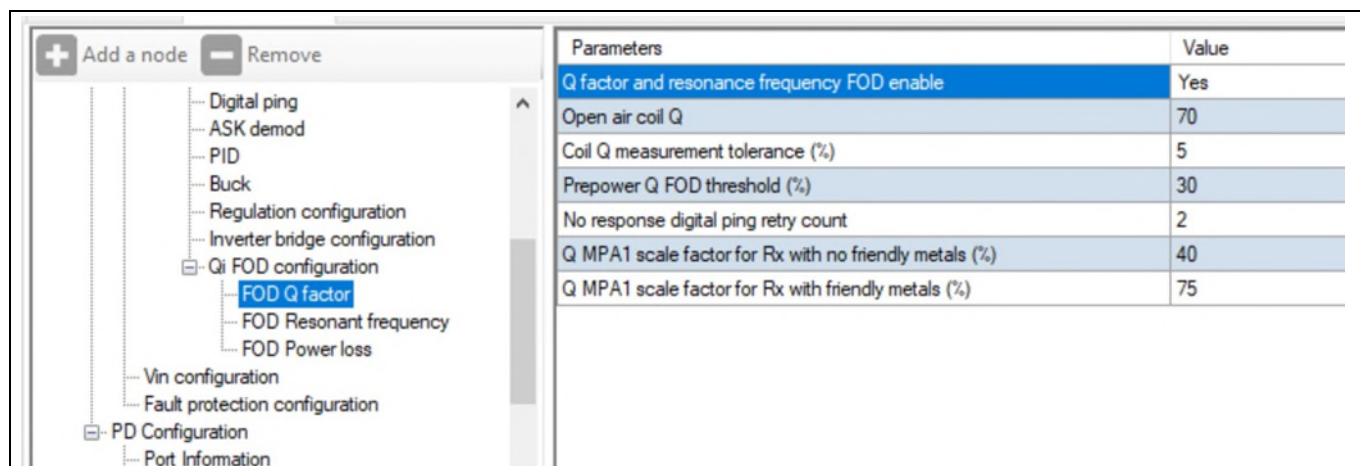

Figure 16 View of Q factor settings configuration tool
- Record the high scaling factor from “QF Scaling Factor Calc” and update the Wireless Charging Configuration Utility parameters in the respective field as shown in Figure 16. See section 3.4 for more details.